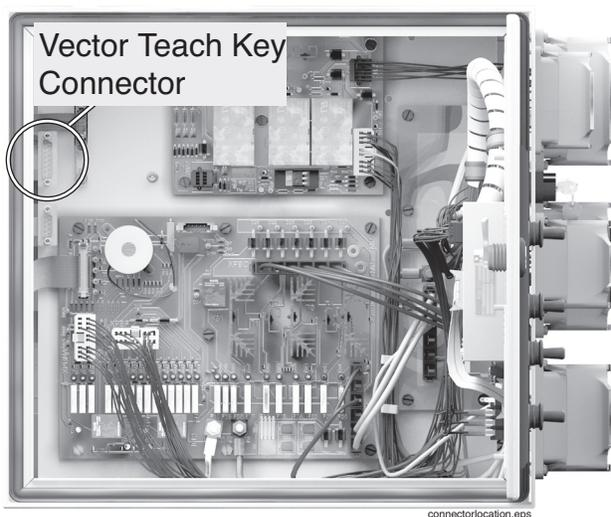

Figure 20
1. Open the front cover and, without activating the “I” switch, insert the “Teach Key” into the connector shown in Figure 20.
2. Open the front cover of the Vector controller, and plug in the hardware “Teach Key” to the connector shown in Figure 20.